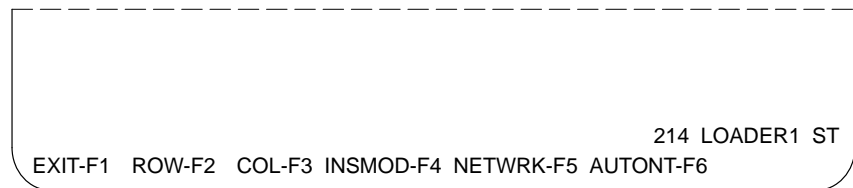

Figure 4-9 Insert Function Keys
2. Press the **INS** hard key or press the **SPACEBAR**, then press **INSERT-F8**. You receive the function key display shown in Figure 4-9.